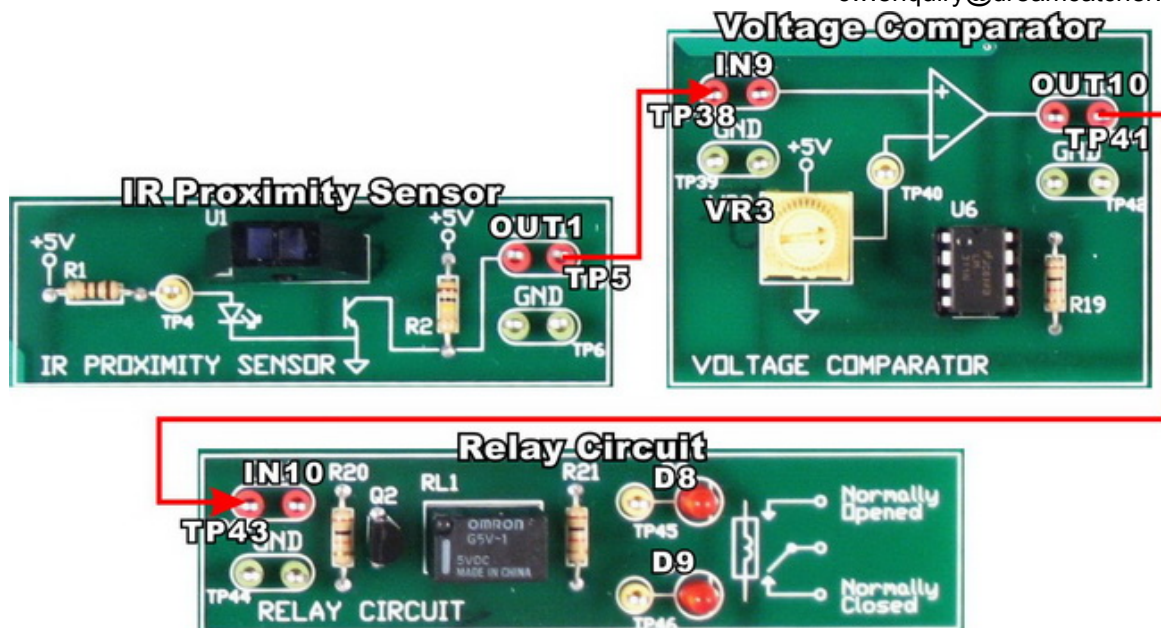

Figure 3 – Circuit Connections for the IR Proximity Sensor Test
3. Connect the IR Proximity Sensor, the Voltage Comparator, and the Relay Circuit as shown in Figure 3.